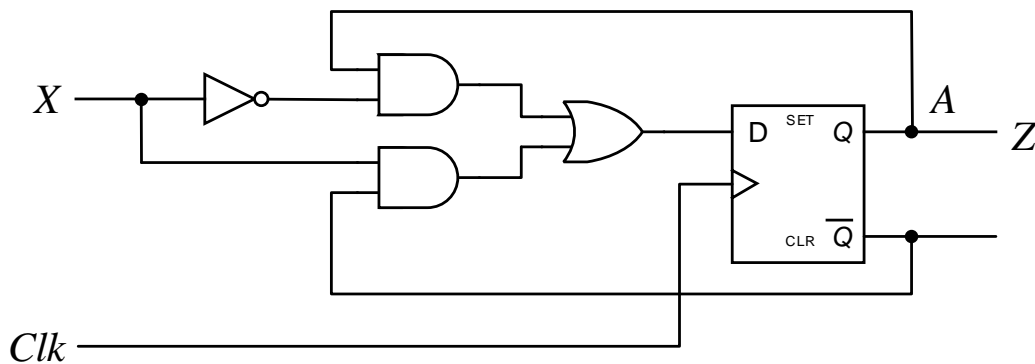

Figure 1. Logic circuit for EXE 2.
Figure 1 shows a synchronous sequential circuit that has one input X, one D flip-flop A and one output Z. Do the following.
2.5 **Training Board:** Build the sequential circuit in Figure 1 on the training board using IC type 7474 and other necessary logic gates. Verify that your circuit works correctly and show it to the lab instructor.